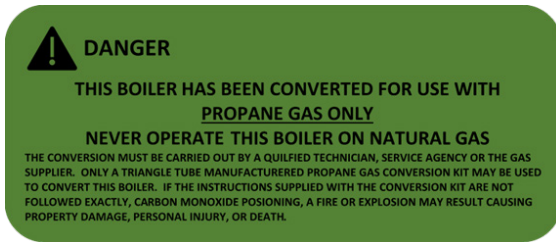
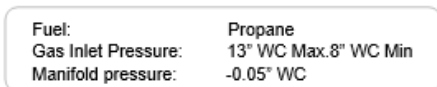

Fig. 5: Propane Conversion Label
Fig. 6: Propane Rating Label
8. Attach the Propane conversion label (Fig. 5) to the side of the boiler and the rating label label (Fig. 6) over the applicable part of the existing rating label